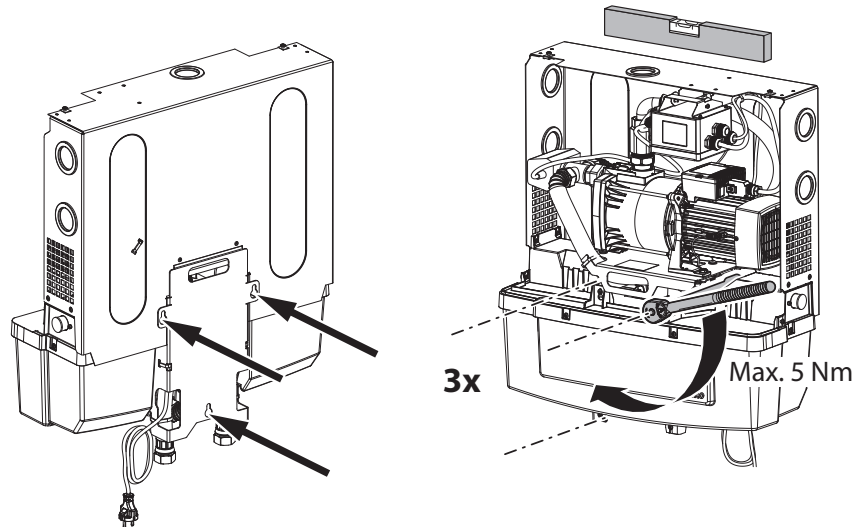

Fig. 13: Fixation points for wall suspension and tightening the screws
4. Hang the system on the screws using the slotted holes on the rear (Fig. 13).